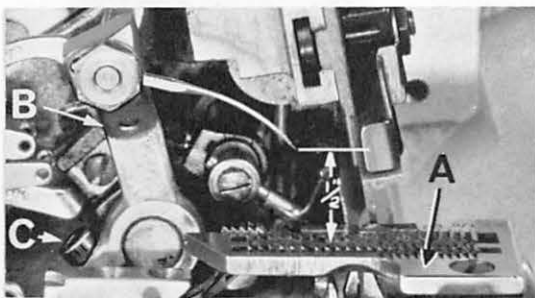

Fig. 3
With throat plate assembled in position, needle should center in the front end of needle slot. When needle is at high position, needle point should be set  $1/2$  inch above throat plate (A, Fig. 3) for Styles 39500 FA, FB, FP, FY, GF, GS, JE and JG;  $15/32$  inch for Styles 39500 GA and JF. To align needle or set the height above the throat plate, move needle driving arm (B, Fig. 3) by loosening clamp screw (C). Remove throat plate.